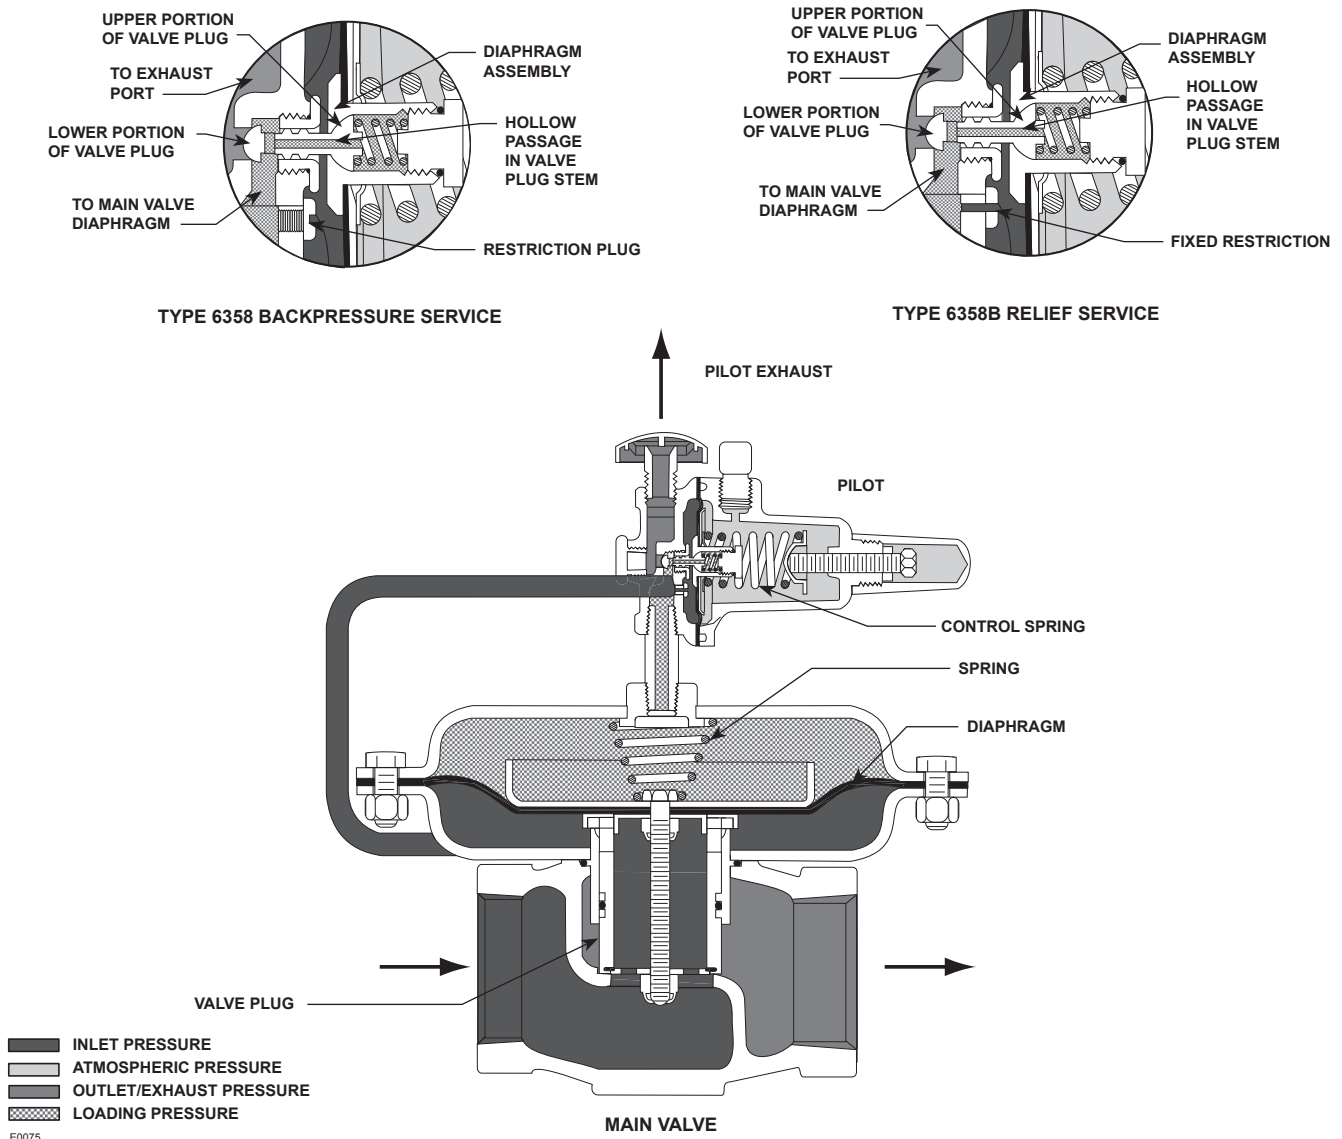

Figure 2. Type 1808 with 6358 Series Operational Schematic
- **Versatility in Both Liquid and Gas Service**—Pilot exhaust port and standard tapped pilot spring case (Figure 2) both come with removable vent for remote piping when necessary. The standard tapped pilot spring case comes complete with a gasketed closing cap that permits pressure loading for remote pneumatic adjustment of the set pressure.
Refer to Figure 2. A pressure relief valve is a control device that opens to relieve fluid to atmosphere during an overpressure occurrence. A backpressure regulator is a control device that maintains a constant upstream pressure throughout a given flow range. It functions the same as a relief valve in that it opens on increasing upstream pressure. **The Type 1808 or 1808A cannot be used as an ASME safety relief valve.**